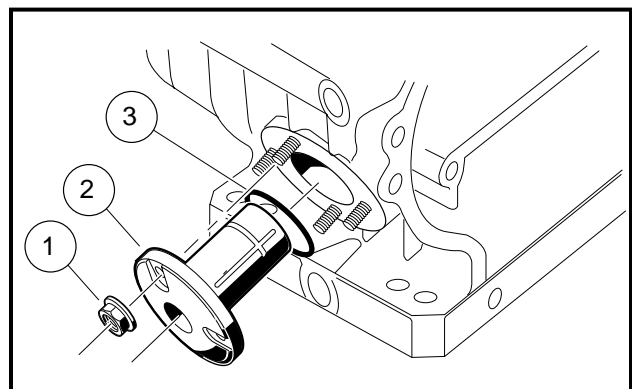

Figure 13-73 Counterbalance Guide Shaft and O-Ring
1. Remove the four nuts (1) and pull out the counterbalance guide shaft (2) and the O-Ring (3) (**Figure 13-73, Page 13-34**).